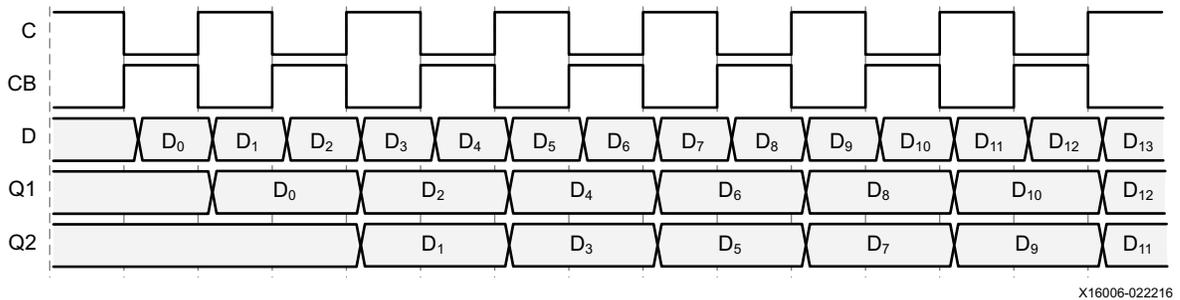

Figure 2-5: Input DDR Timing in SAME\_EDGE Mode
In SAME\_EDGE mode, the data is presented into the device logic on the same clock edge. Figure 2-5 shows the timing diagram of the input DDR using the SAME\_EDGE mode. In the timing diagram, the output pairs Q1 and Q2 are no longer (0) and (1). Instead, the first pair presented is pair Q1 (0) and Q2 (don't care), followed by pair (1) and (2) on the next clock cycle.